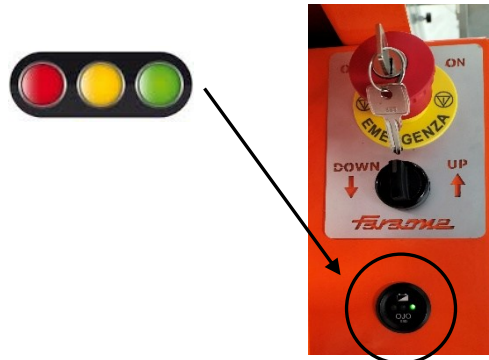

Fig.1
4. The display (fig.1) shows the battery charge status and charging progress.